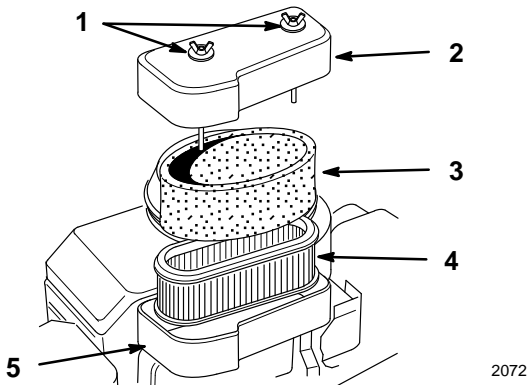

Figure 17
2. Clean around the air cleaner to prevent dirt from getting into the engine and causing damage. Unscrew the cover nuts and remove the air cleaner cover (Fig. 17).
3. Remove the air cleaner assembly (Fig. 17).
4. Carefully slide the foam element off the paper element (Fig. 17).